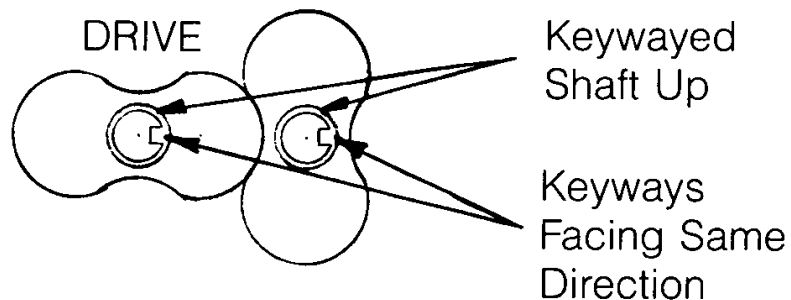

Figure 7
3) Stand rotors (1) on arbor press table with gear end shafts up. See Figure 7. Two keyways should point in the same direction, to the right.